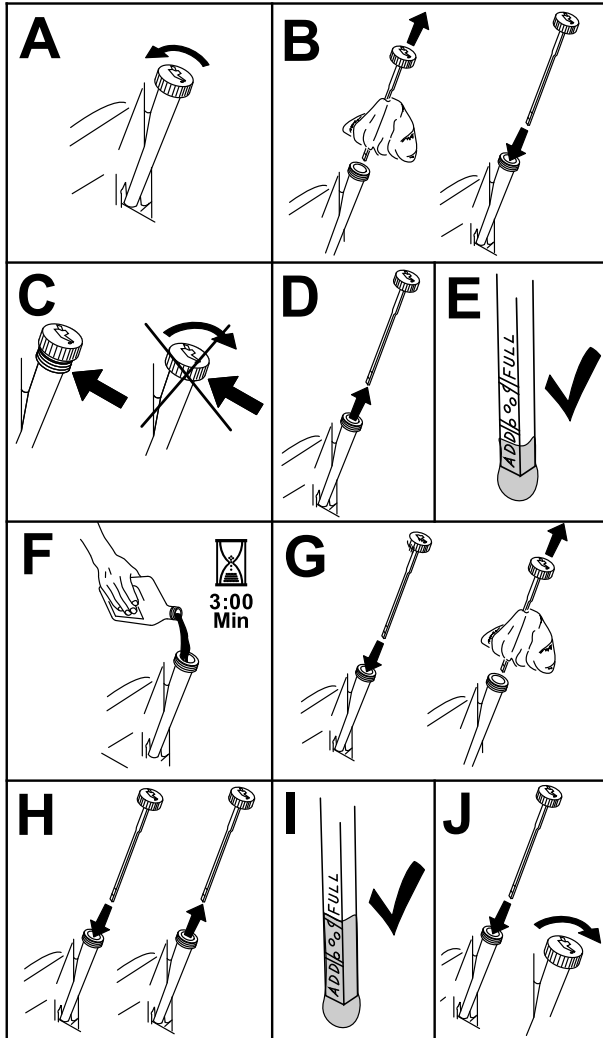

Figure 51
- Shut off the engine, remove the key, and wait for all moving parts to stop before leaving the operating position (Figure 51).